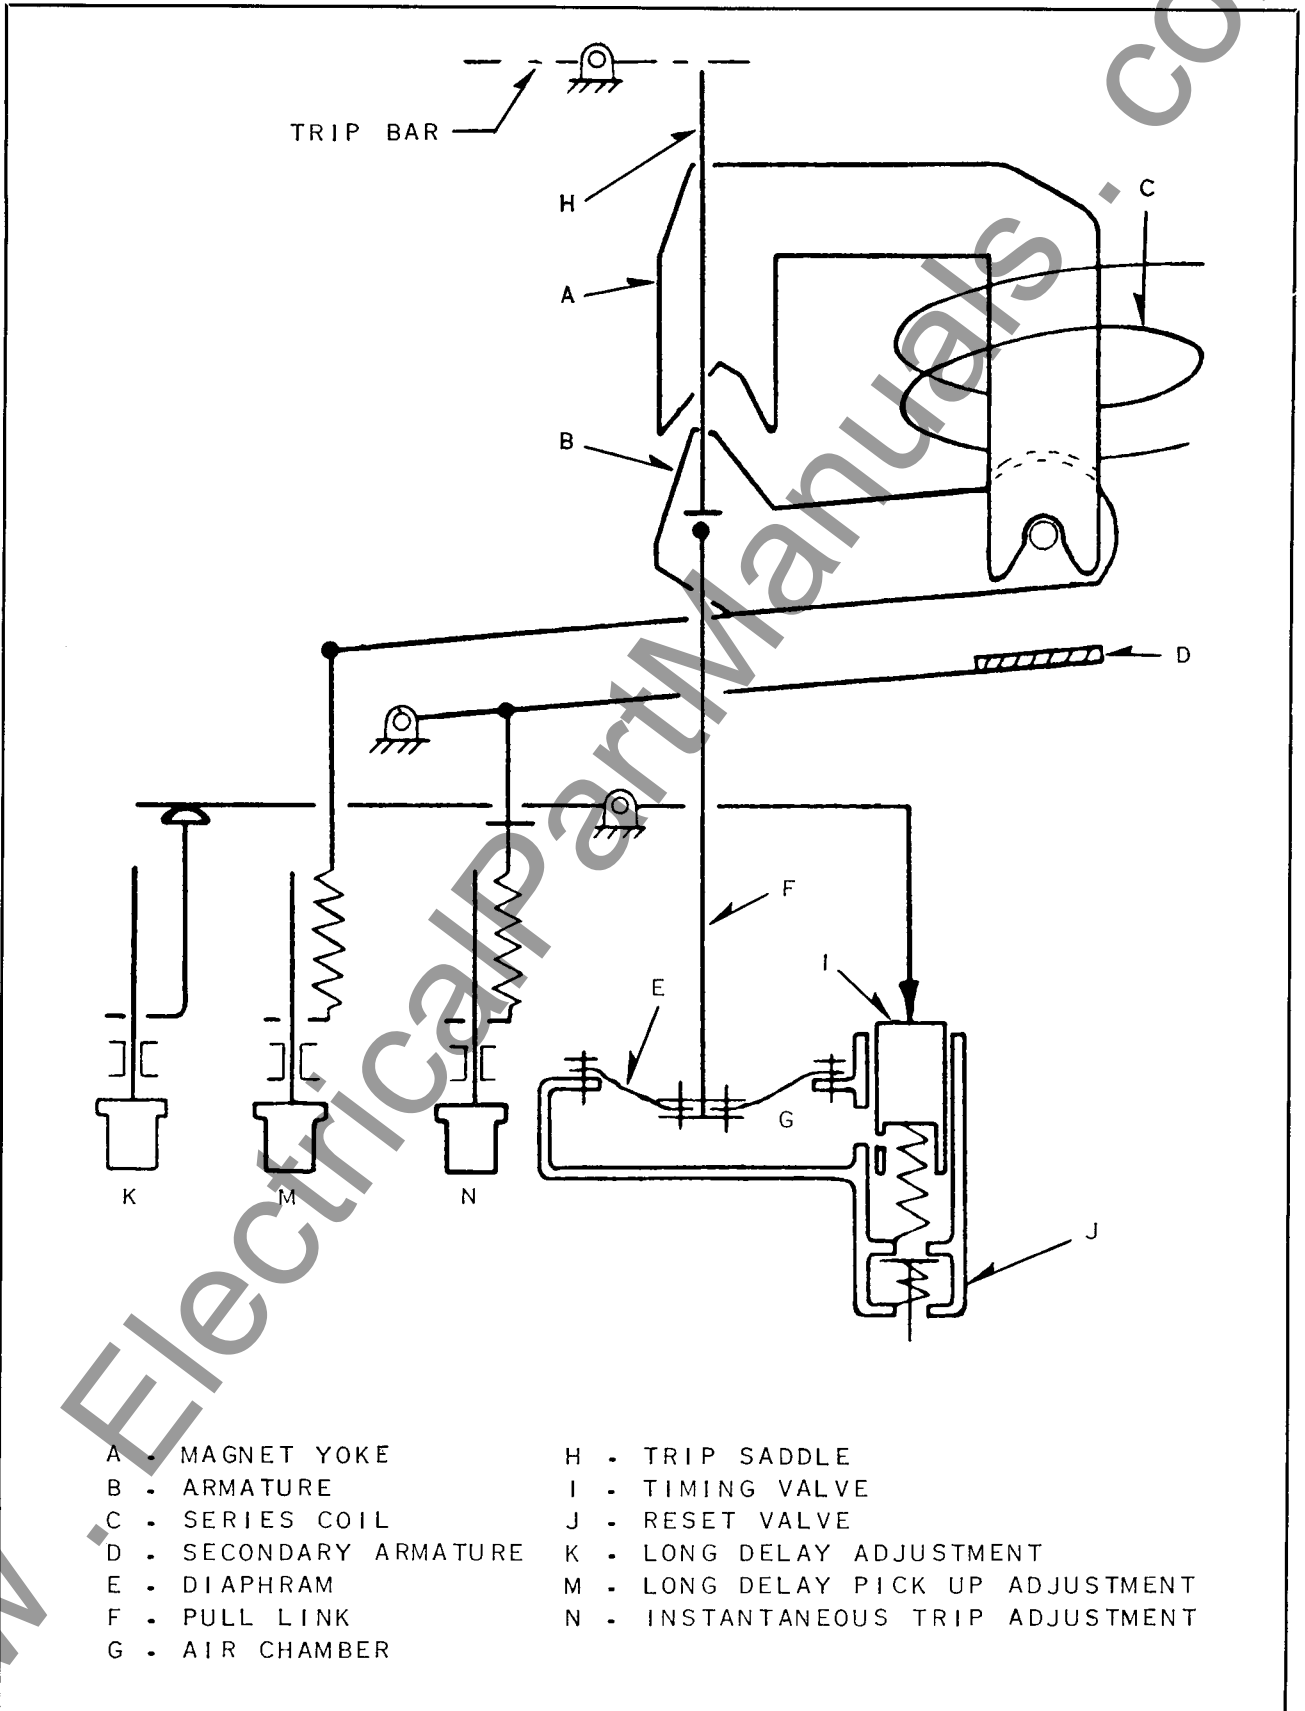
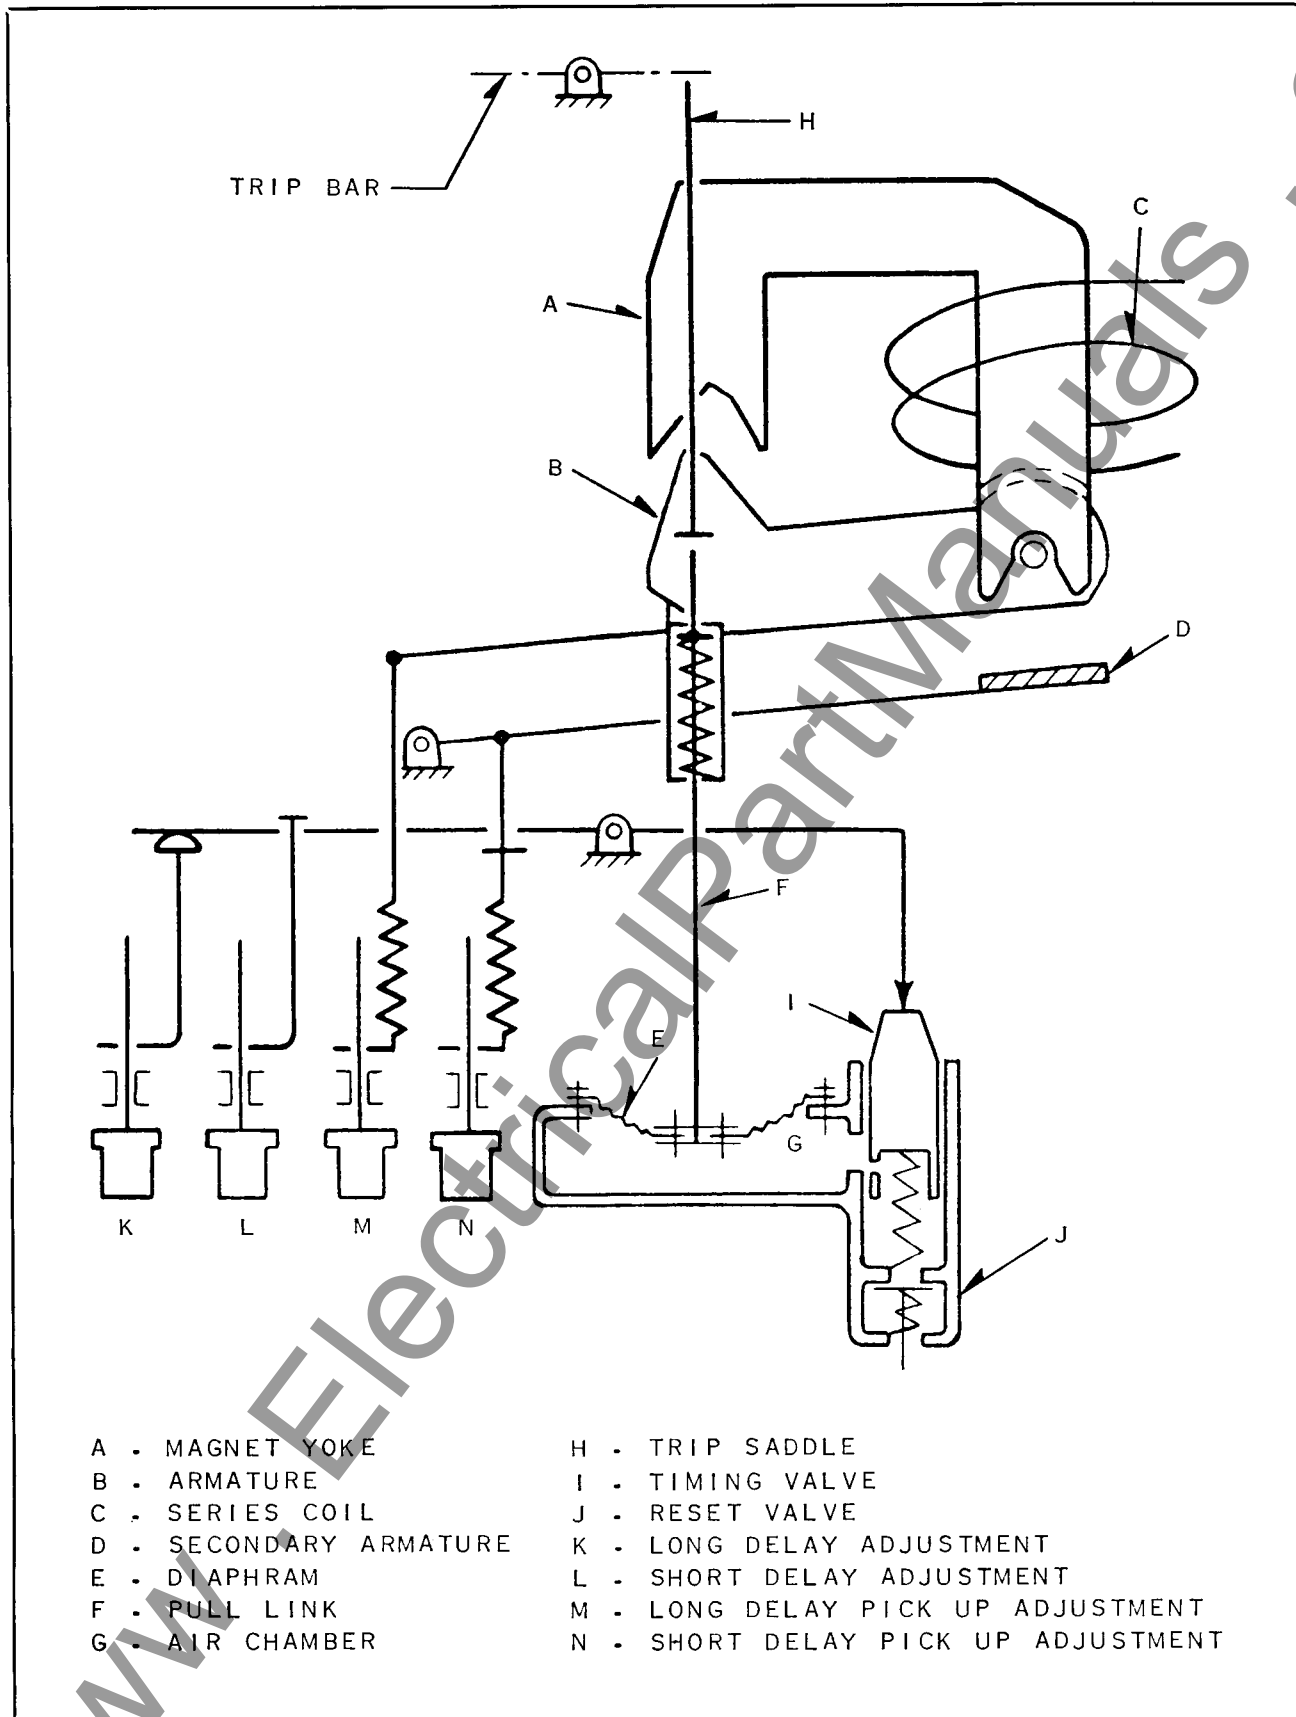

FIG. 7C. Schematic Diagram—Dual Overcurrent Series Tripping Device DB-15 and DB-25 Load Circuit Breakers
FIG. 7D. Schematic Diagram—Dual Selective Overcurrent Series Tripping Device DB-15 and DB-25 Group or Tie Circuit Breakers
#### 1—Dual Overcurrent Tripping Device for Load Breakers, Fig. 7C
#### 2—Dual Selective Overcurrent Tripping Device for Group and Tie Breakers, Fig. 7D
The operation of this selective device is the same as the dual overcurrent tripping device, except, that in this case, the long delay and instantaneous valve (I) in Figure 7C is replaced with a long delay and short delay valve (I) Figure 7D, which operates the same, except, when valve (I) Figure 7D is forced down by the secondary armature on fault currents it controls the size of orifice to give the tripping time required in the fault current short delay region.
By turning the adjustment knobs K-M-N Fig. 7C and K-L-M-N Fig. 7D, the settings of the various time and pick-up elements can be changed. A clockwise movement of any one of the knobs will increase the setting and a counterclockwise movement will decrease the setting.